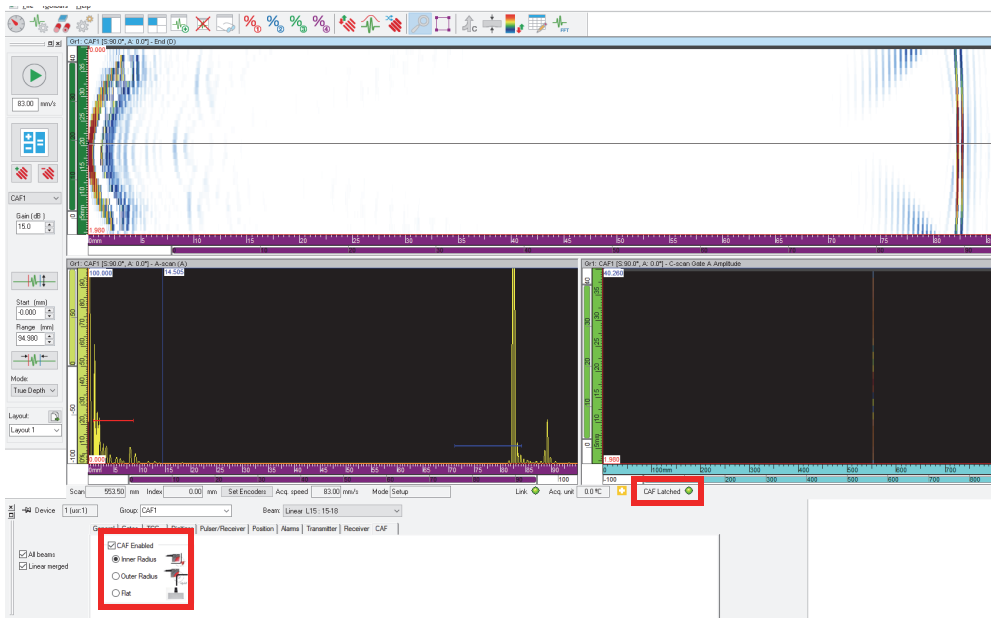

Figure 4-60 Selecting and enabling the CAF type
8. On the **CAF** tab (in **UT Settings**), select the **CAF Enabled** check box, and then select the surface type (Figure 4-60 on page 153).